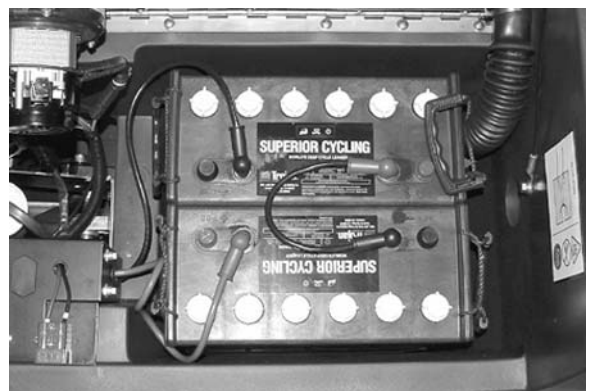

FIG. 2
- Carefully install batteries into battery tray at bottom of compartment and arrange battery posts as shown (Figure 2).
- Connect cables to battery posts as shown (Figure 2), RED TO POSITIVE & BLACK TO NEGATIVE. Use the rubber boot post protectors supplied.